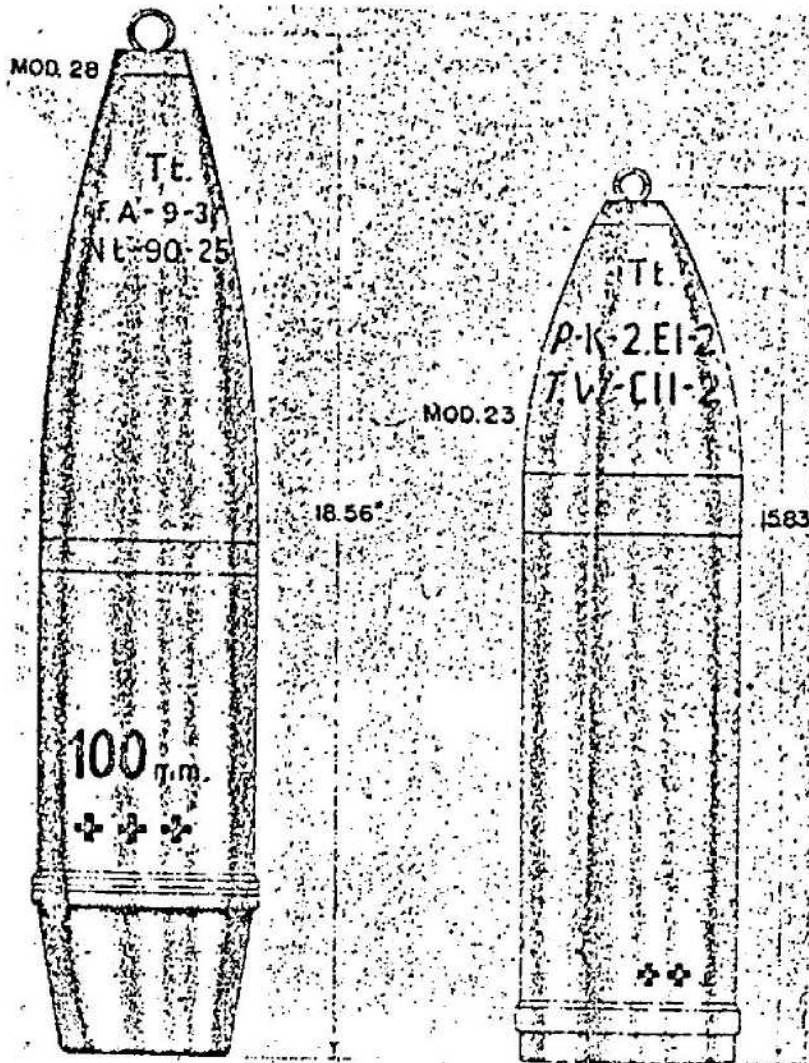

Figure 476—H. E. Projectile, Models 23 and 28 for Skoda, 105-mm
**GERMAN NOMENCLATURE:** Not known. (See fig. 476.)